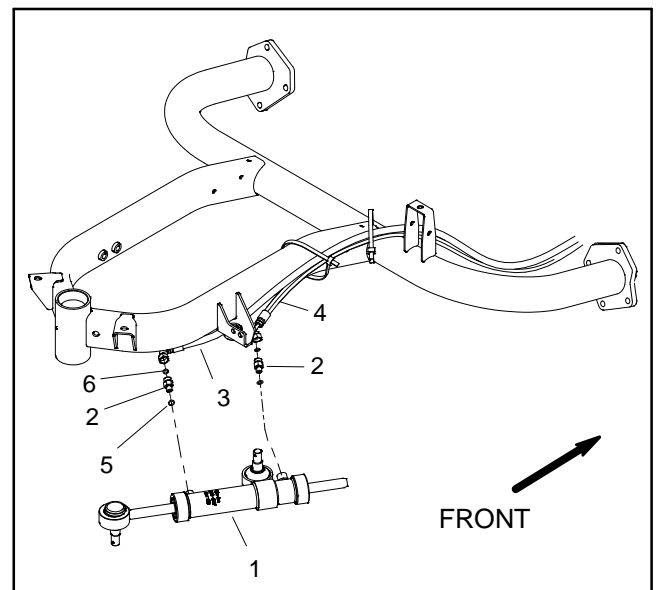

Figure 76
4. Place cylinder spacer (item 10) onto cylinder barrel ball joint.
6. Secure both steering cylinder ball joints to machine with two (2) jam nuts (item 4). Install first jam nut and torque from **60 to 80 ft-lb (82 to 108 N-m)**. Then, while holding first jam nut with wrench, tighten second jam nut and torque from **60 to 80 ft-lb (82 to 108 N-m)**.
8. Lubricate new O-rings and connect hydraulic hoses to steering cylinder (Fig. 76). Tighten hose connections (see Hydraulic Hose and Tube Installation in the General Information section of this chapter).